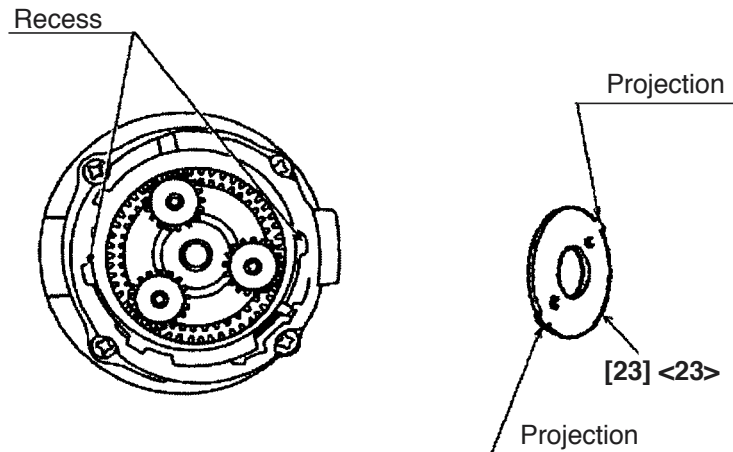

Fig. 11
- (iii) Install Washer (B) [23] <23> in the Rear Case [14] <14> with the projections of Washer (B) [23] <23> engaged with the recesses in the Rear Case [14] <14>, and turn Washer (B) [23] <23> clockwise until it can turn no further. (See Fig. 11.)